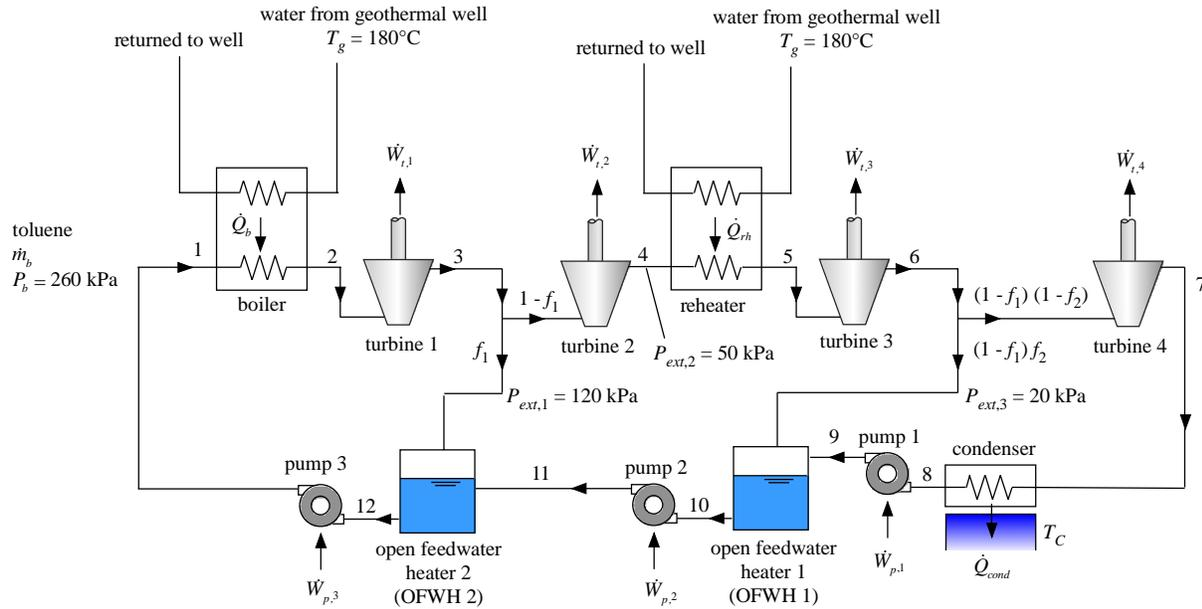

Figure 8.A-6: Schematic of the power plant cycle consisting of a Rankine cycle with reheat and regeneration using two open feedwater heaters.
8.A-6 In a geothermal system, water is pumped into the ground (several kilometers deep) where it is heated by geothermal energy and then returned to the surface to provide energy for a power plant. In 2005, the U.S. had 2851 MW of installed geothermal power production; most of this capacity is in California and Nevada. This problem examines the use of geothermal energy for power production with the Rankine cycle shown in Figure 8.A-6. The cycle employs both reheat and regeneration with two open feedwater heaters.